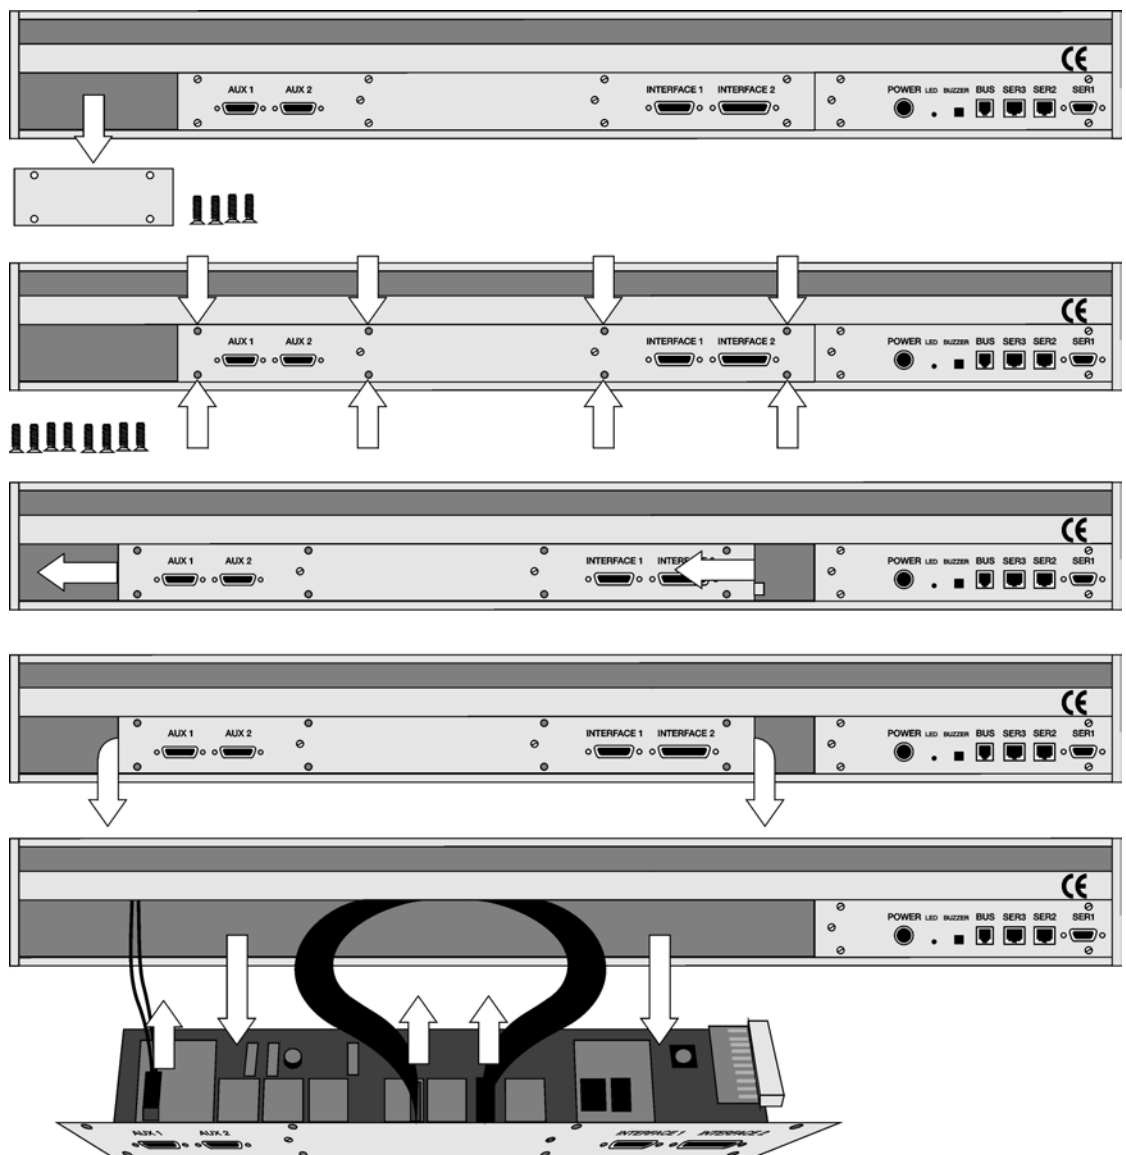

Figure 30 Replacing MOTIO Board
- 1 Follow the sequence shown in Figure 30 to detach and release the MOTIO board from its position inside the X Crossrail.